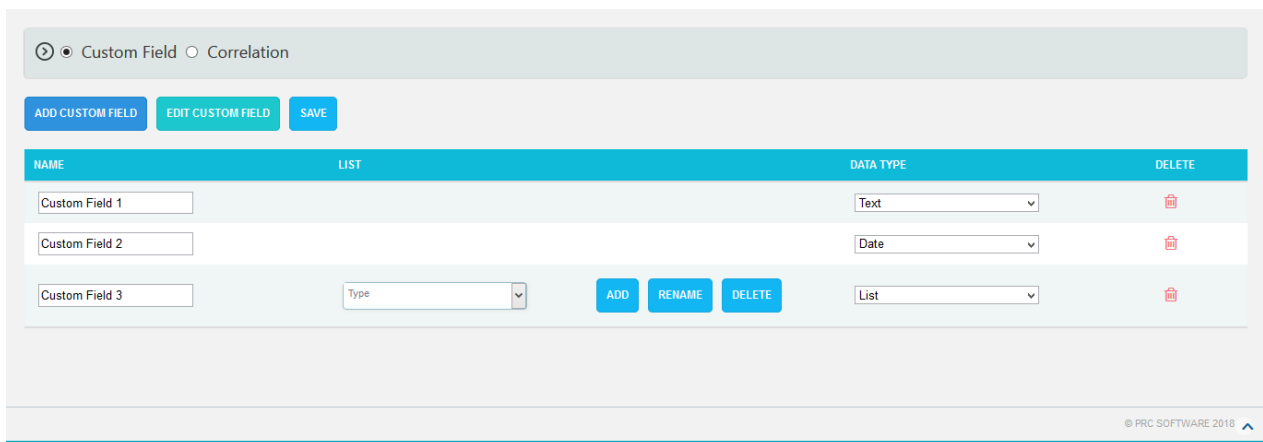

Figure 2.49
5. For the data type List, enter the value in the **Editable Combo box** provided and click the **Add** button. (Figure 2.49)
3. Edit the necessary details. (Figure 2.49) For custom fields with the data type List, enter the value in the **Editable Combo box** provided and click the **Add** button to add list values.
4. Click the **SAVE** button to finish. (Figure 2.49)
3. Click the **Delete** icon to delete the required custom field. (Figure 2.49)